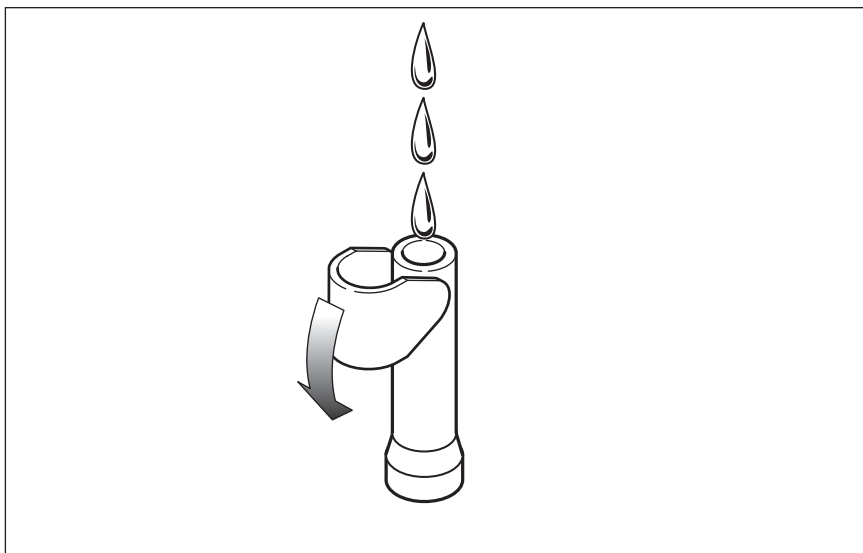

Figure 2. Adding smoke fluid
**Y**our caboose is equipped with a smoke generator that produces safe, clean, white smoke during operation. The smoke generator requires the periodic addition of Lionel smoke fluid in order to function. Swing the hood at the top of the stack out of the way before adding smoke fluid as illustrated in Figure 2. A small bottle of smoke fluid is included with this car. Press down and unscrew the cap, then pierce the end of the tube with a pin. Add five to eight drops of smoke fluid directly into the smokestack. Additional smoke fluid (6-02920) is available at your authorized Lionel dealer.